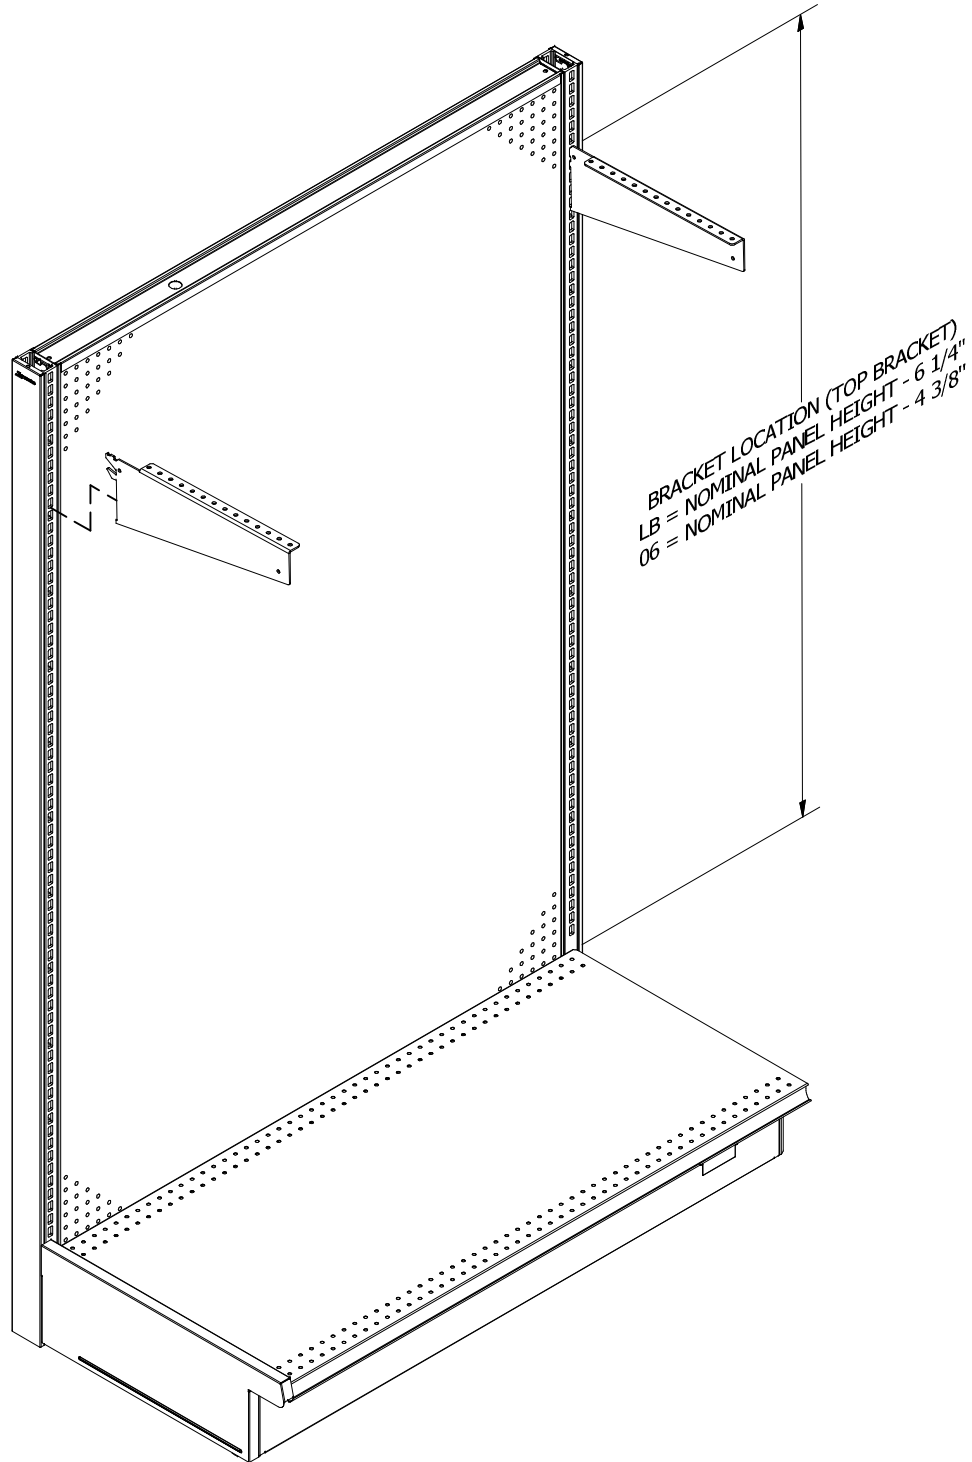

FIGURE 1
STEP 2: Install brackets into uprites per FIGURE 1.